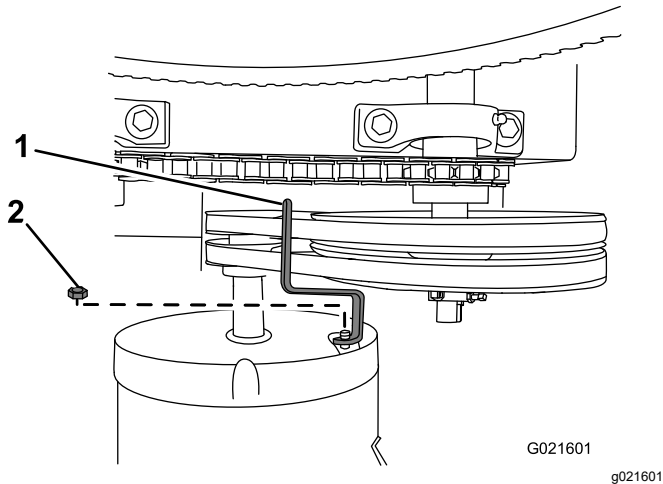

Figure 37
- Remove the nut that secures the belt guide to the motor, and remove the belt guide (Figure 37).
- Loosely secure the belt guide to the motor (Figure 37) with the bolt that was removed in step 3 of Removing the Belts \(page 28\).